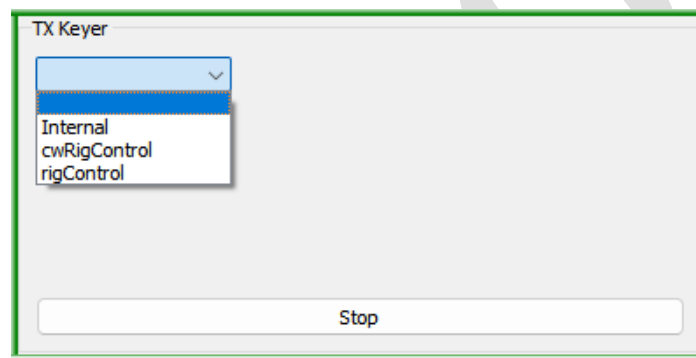

Figure 127 – TX Keyer panel in Logger
Having added the Keyer panel to the Logger screen layout (see section 3.5), the pulldown list at top left allows selection of the method to be used (Figure 127):
- “**Name**” is what is displayed on the button (Figure 127).